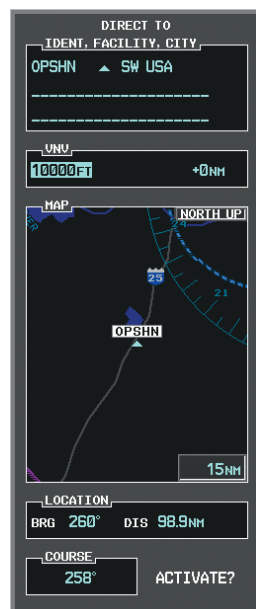

Figure 5-128 Enter VNV Altitude
- d) Turn the large **FMS** Knob to place the cursor in the VNV altitude field as shown in Figure 5-128.